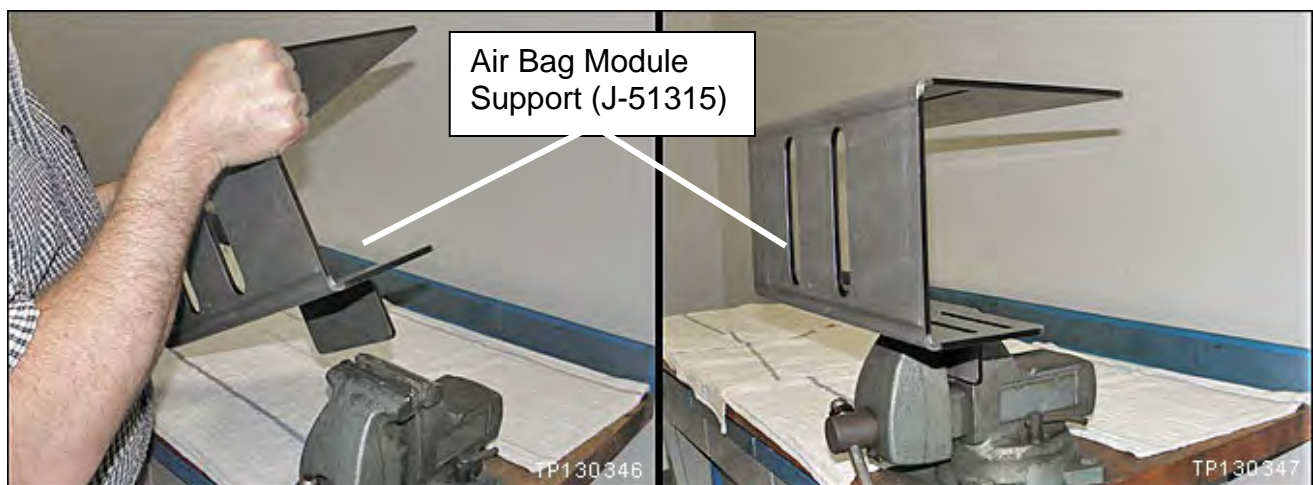

Figure 11
20. Securely mount the air bag module support (support) in a vice (see Figure 11).